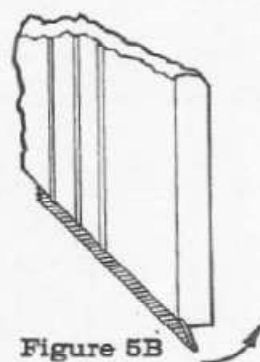

Figure 5B
- Strip the top and bottom tongues of the decorative panel with gasket tape (Figure 5B). Slide front sub-assembly into groove of side panel (Figure 6) being careful not to fray grille cloth. Slide sub-assembly down until it seats into groove of top panel. Be certain that all joints are well seated.